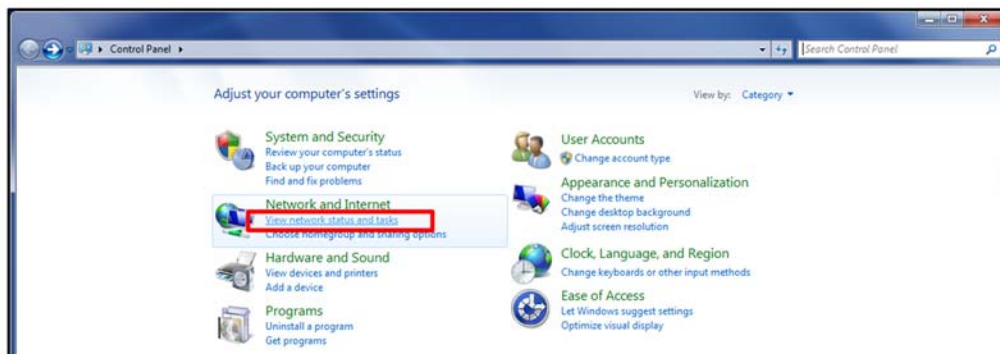

Figure 4-15: View Network Status and Tasks
2. Click on **View network status and tasks**, under Network and Internet as shown in Figure 4-15.